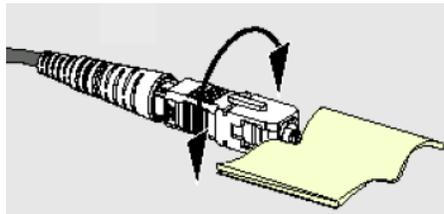

Figure 19-11: Cleaning the Connector Edge
4. Clean the edge of the connector by gently rolling the tip along the edge of the wipe. See Figure 19-11.